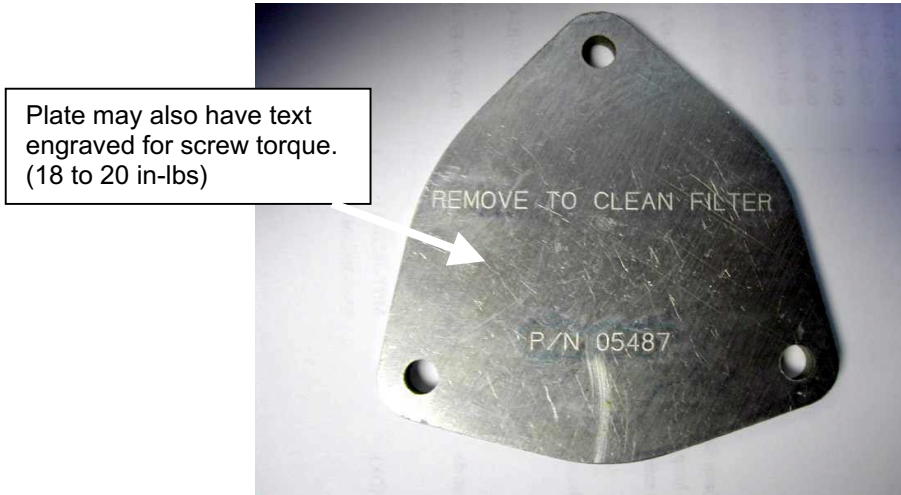

FIGURE 1
3. If you are unsure of either the serial number, data plate or previous compliance, inspect the end filter access cover, part number 05487 to determine if it is correct. If the cover is identical to the one shown in Figure 1 proceed to Step 5 below. If the cover is not identical to the cover in Figure 1 continue with these instructions.
4. If the cover is not identical to the cover in Figure 1 proceed to Step 3 of PART II found below.